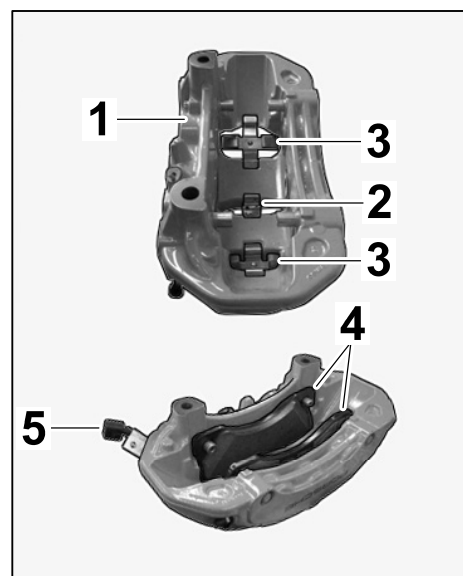

Figure 6
2.2.1 Position new brake pads (2 x, ⇒ *Figure 6 -4-*) on the pad retaining pins.
2.2.3 Slide the brake pad as far as it will go onto the pad retaining pin on the brake caliper (⇒ *Figure 6*).